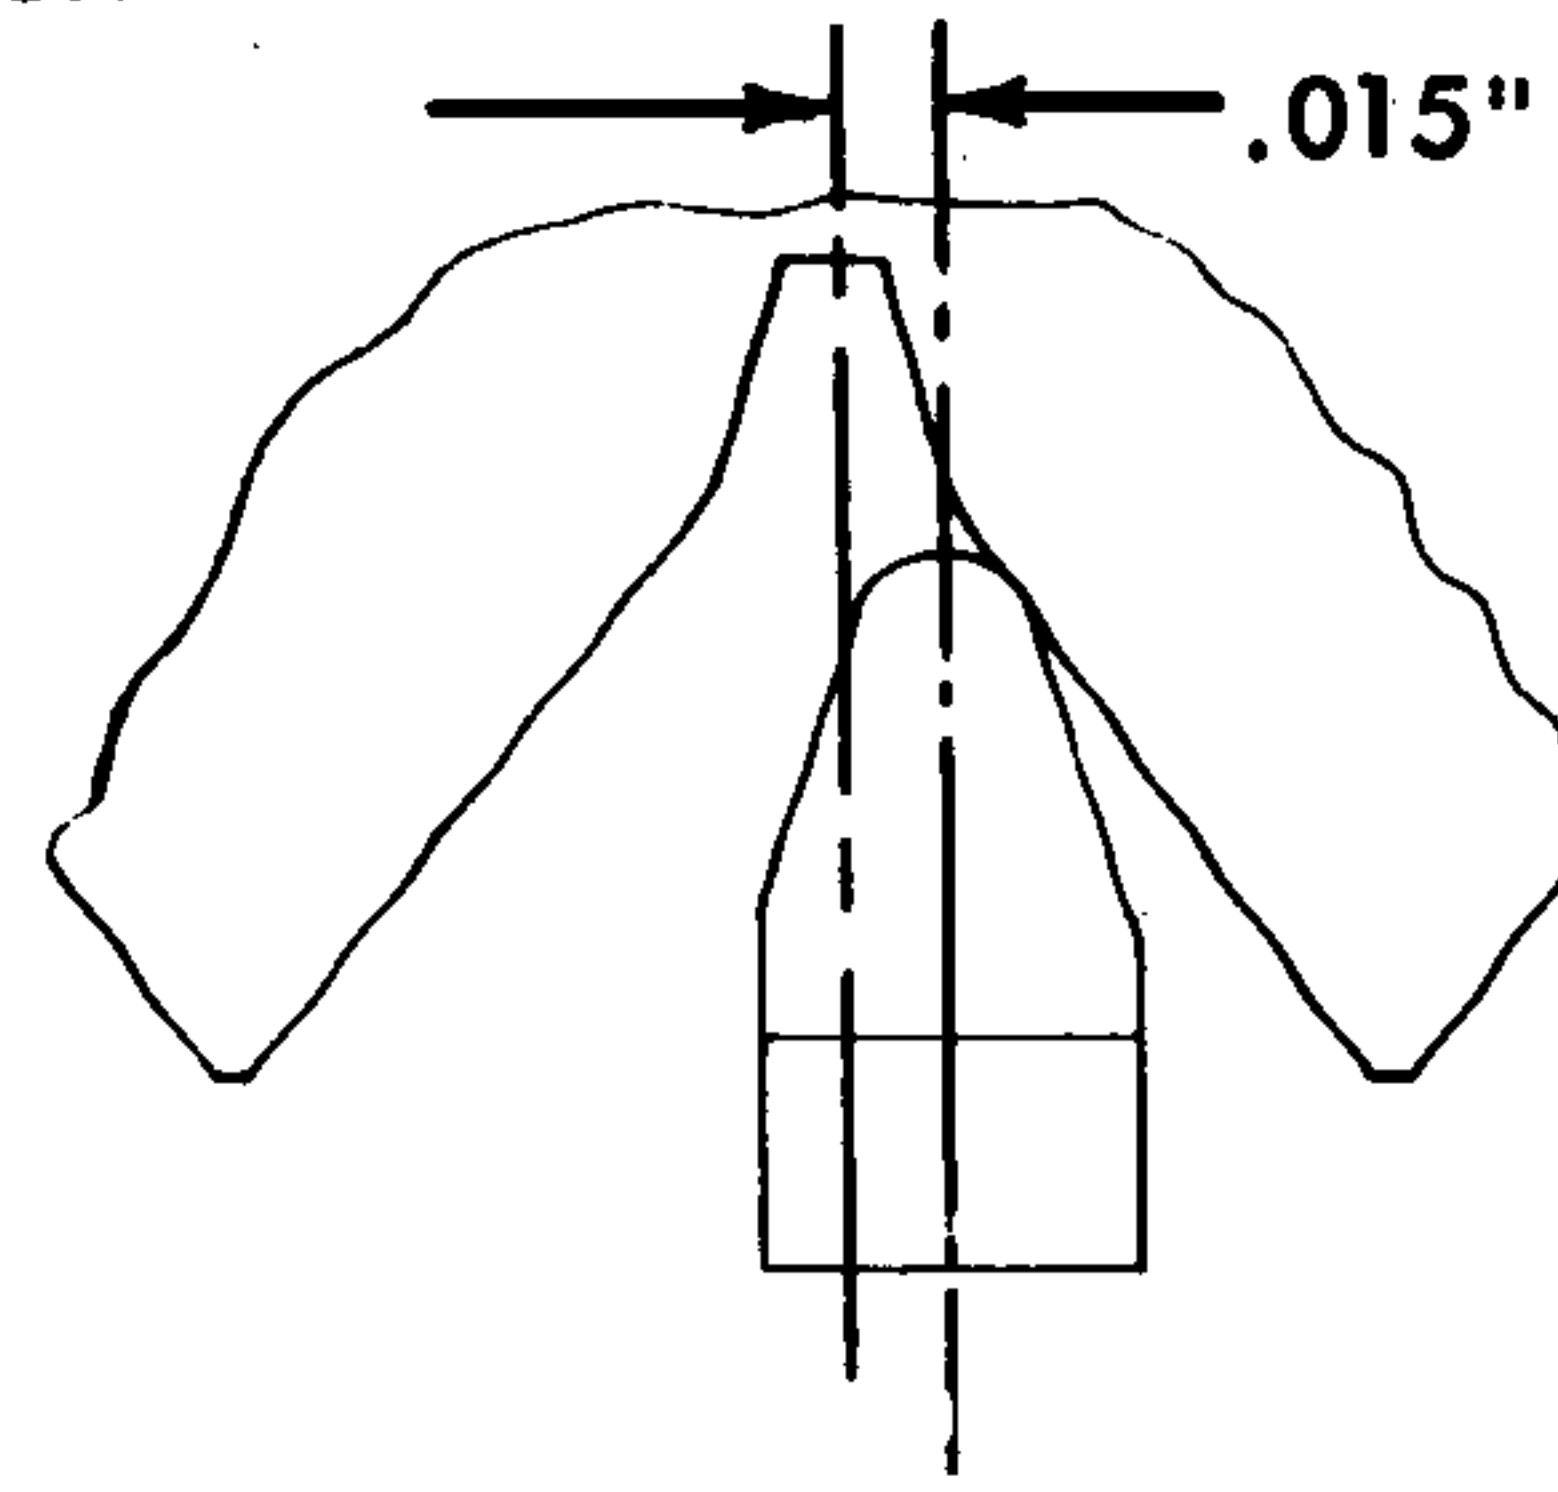

Figure 79. Typehead Homing
5. Typehead Homing (Fig. 79) - With the carrier positioned to the left and an upper case tilt 1, zero rotate character half cycled, loosen the set screw in the bottom of the rotate pulley and slip the typehead for .010" to .020" clockwise motion of the head when the